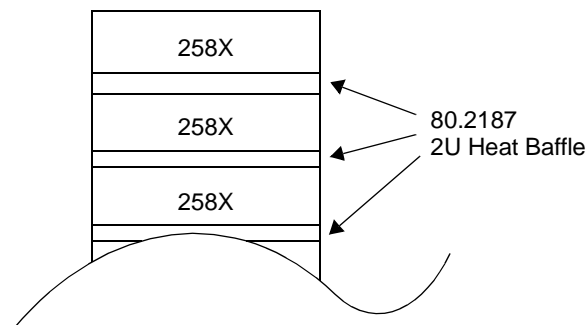

Figure 3-1 Mounting Assembly Arrangement with 2U Heat Baffles
- 3.3 Tellabs recommends that one 2U heat baffle (part no. 80.2187) be installed between each 258X mounting assembly for ventilation. This heat baffle occupies 89mm (3.5 inches) of vertical rack space (two mounting spaces). Figure 3-1 shows this mounting arrangement.